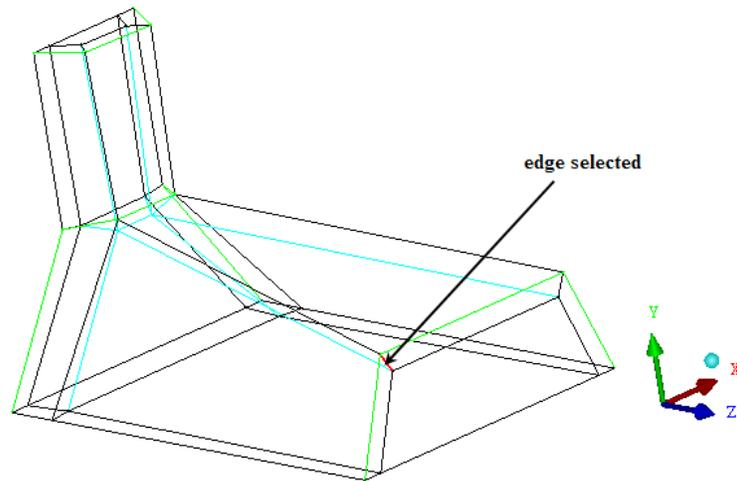

Figure 16: Edge Selected for Modifying the O-Grid
- (d) Select the radial edge shown in Figure 16.